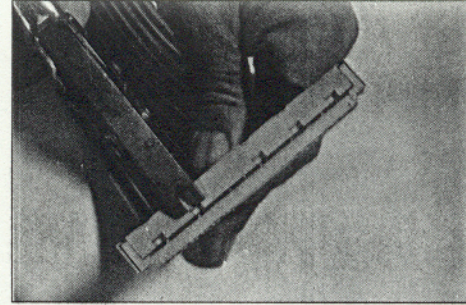

figure 12
2. Remove the corresponding plastic material from the 3695 Plug Connector using the 3708 Coding Notcher Tool. (fig. 12)